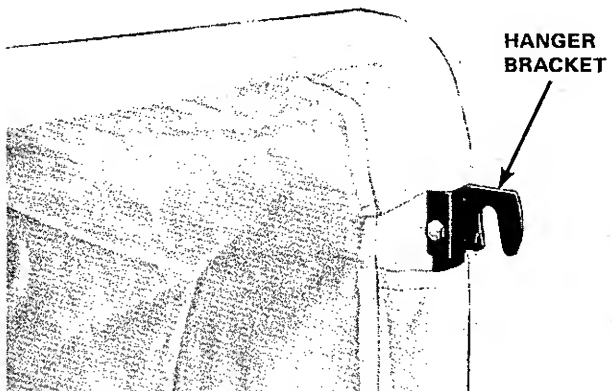

FIGURE 10
4. Install the rear door upper hanger brackets as shown. (See Figure 10)